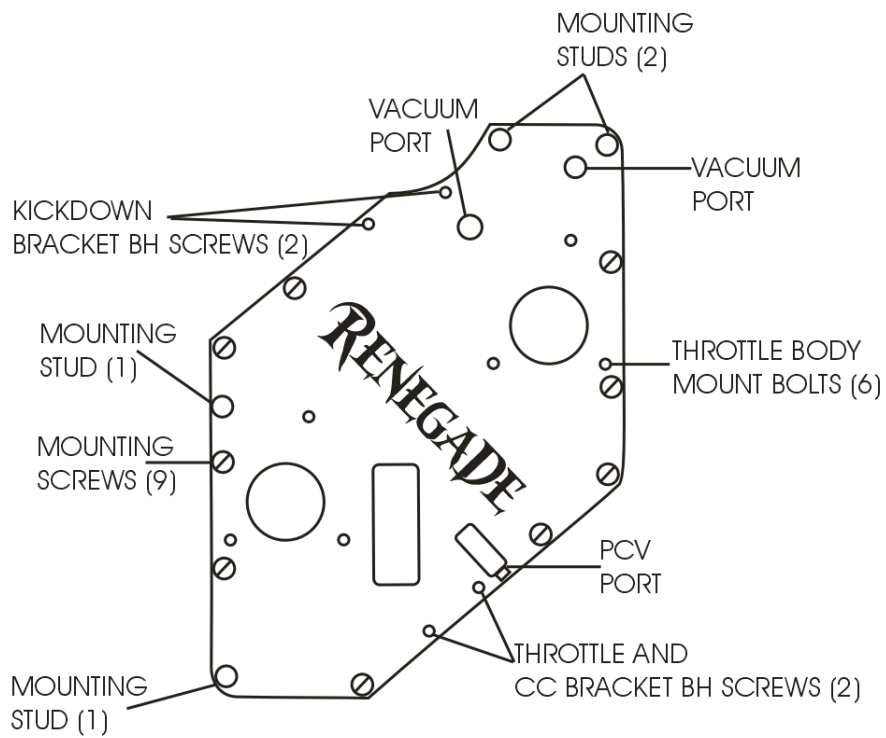

Fig. 1 Manifold Top Plate
6. Install manifold top plate (**Figure 1**) use the supplied ¼ 20 screws and studs as needed. Apply a suitable bead of Permatex® Ultra Blue RTV® or any good gasket type sealant around the flat edge of the lower manifold to form a good gasket. **NOTE: If you apply too much sealant it will ooze out the sides and make a mess.** Using the supplied hardware, loosely insert and start all the screws and studs as needed to obtain the proper fitment. Once the screws are all installed, starting from the inner screws and working your way outward, torque screws to 215in/lbs. It is also recommended that you put a small amount of Permatex® medium strength Threadlocker Blue Gel™ or equivalent thread sealant on each screw thread to keep them from backing out.
7. Install all other remaining hardware, water thermostat, water neck, distributor, brackets, vacuum fittings and tubes, tachometer ballast etc... from the stock manifold in the provided holes in Renegade manifold and top plate. Install the PCV valve hose nipple from the stock manifold into the plate top provided, raised port in front, see (**Figure 1.**). Attach supplied hose to nipple and PCV valve on drivers side valve cover. Install the remaining vacuum fittings from the stock top plate to the Renegade top plate taking care not to over tighten them.